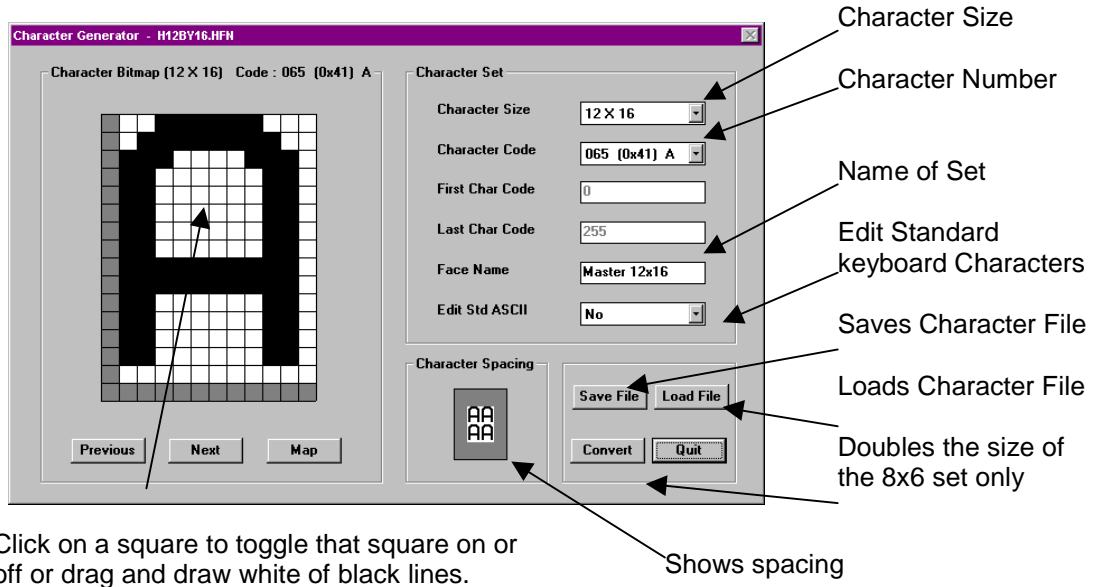

Figure 10.1 - Character Generator
1. From **C**onfigure on the menu bar, choose **F**onts. The screen in Figure 10.1 appears.